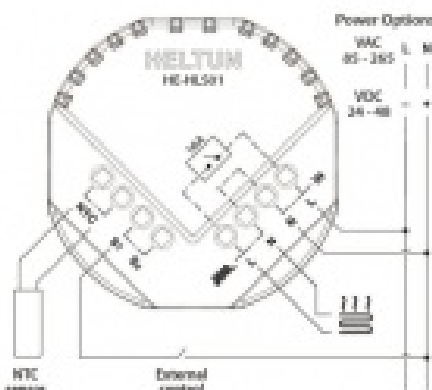

Figure 4: Connection diagram 1
- Connect S1 to electric network Line through dry contact switch (as in **Figures 4 & 5**)